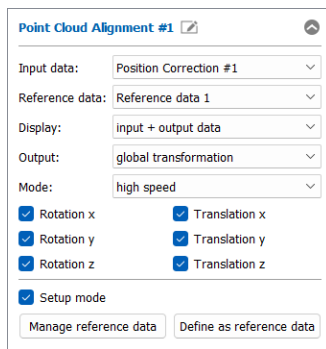

Fig. 5.11: "Point Cloud Alignment" – settings in setup mode
- Insert the "Point Cloud Alignment" program. The setup mode of the program is activated automatically after it has been inserted. You also may activate the setup mode afterwards with the "Setup mode" check box (see Fig. 5.11).